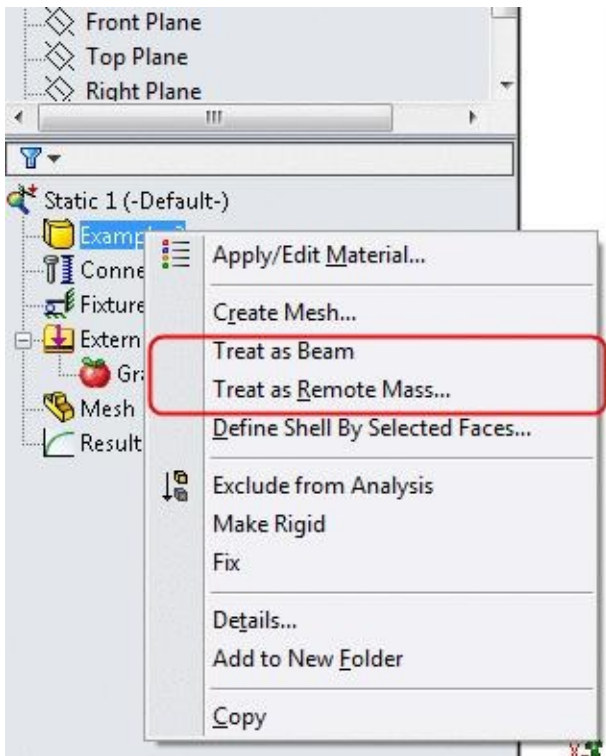

Figure-42. Treat as options
- Click on the **Change body setup** link button to specify setting for the body. You are displayed a message box saying then you need to right-click on the body and select the Treat as option. Right-click on the name of the model in the **Analysis Manager** and select the desired treat as option; refer to Figure-42. The option related to the selected option will be displayed in the form of **PropertyManager**. Act accordingly.